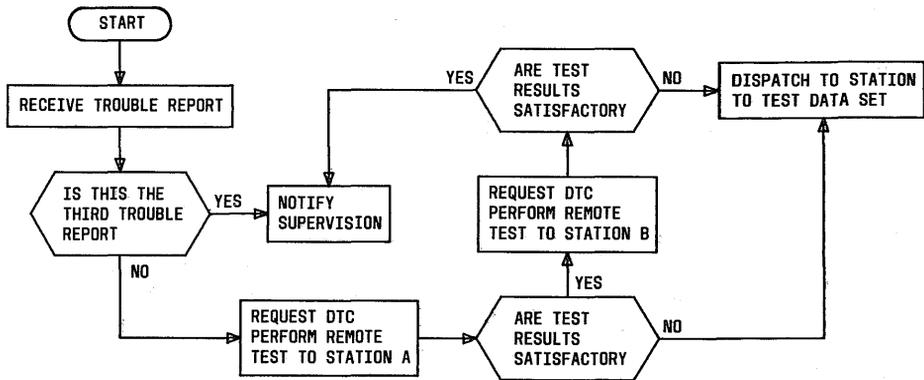

Fig. 3—Clearing Trouble Report
**3.02** When a trouble report is received, a DTC is responsible for isolating the trouble to the data station or the transmission facility. The procedure for doing this is shown in Fig. 3.